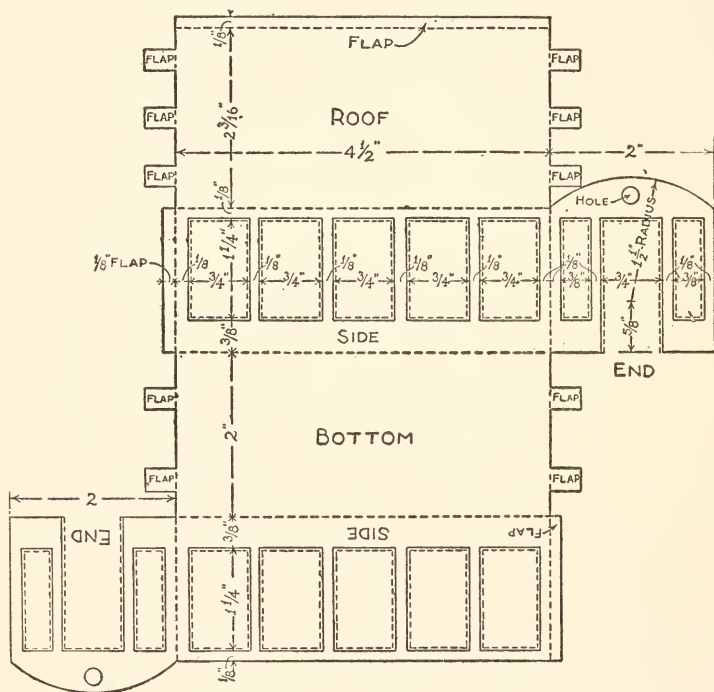
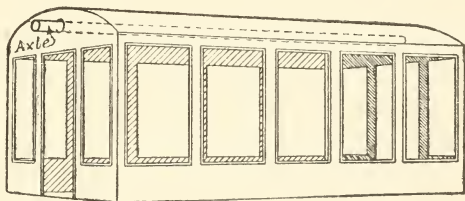

FIG. 158. — Pattern for the Ferris Wheel Cars.
FIG. 159. — A Completed Car for the Ferris Wheel.
**To Make the Cars.** The pattern for the cars is shown in Fig. 158, and on it you will find all the dimensions necessary for laying it out to the proper size. It will be understood that the unfigured portions of the drawing
it is correct, after which make a careful tracing of it, turn it over and transfer the drawing five times upon cardboard. These and your original drawing will give you the required number of cars. Cut out the openings with a sharp knife and then do the rest of the cutting with a pair of scissors; punch a  $\frac{1}{4}$ -inch hole in each end of each car with a lead-pencil (Fig. 158), being careful to get the holes exactly opposite. In folding and gluing the cars, slip the flaps inside and bend the roofs so they will follow the curve of the ends (Fig. 159.)
**The Axles** from which the cars are hung (Fig. 159). Great care must be used in fastening them between the rims, for they are easily split, and the best way to do is to start a hole first in the ends of each axle with an awl or by driving a brad part way in and then withdrawing it; then drive a brad through each spoke of one rim into an axle (Fig. 157); slip the other ends of the axles through the holes in the ends of the cars (Fig. 159), and nail the spokes of the other rim to them.